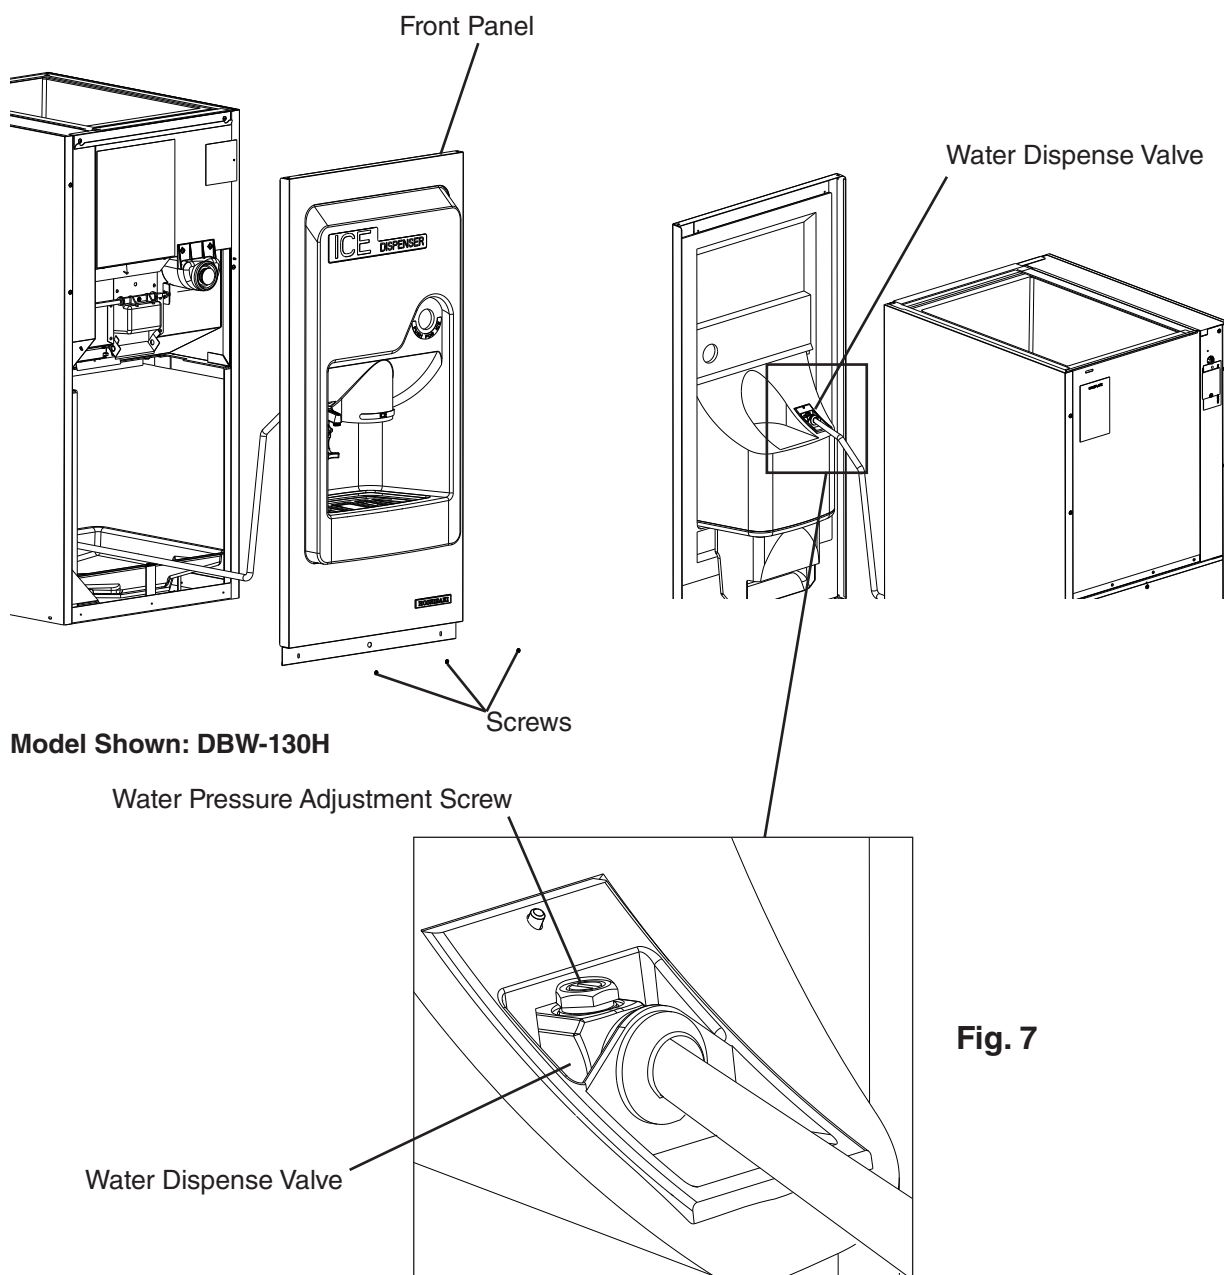

Fig. 7
- 2) Locate the water dispense valve water pressure adjustment screw on the top of the water dispense valve. See Fig. 7.